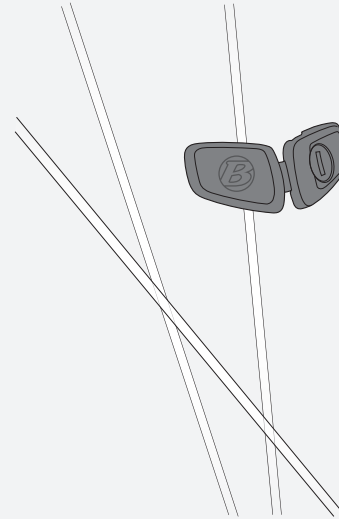

Figure 26. Magnet on Spoke.
1. With the logo facing away from the wheel (Figure 26), wrap the magnet around a spoke.